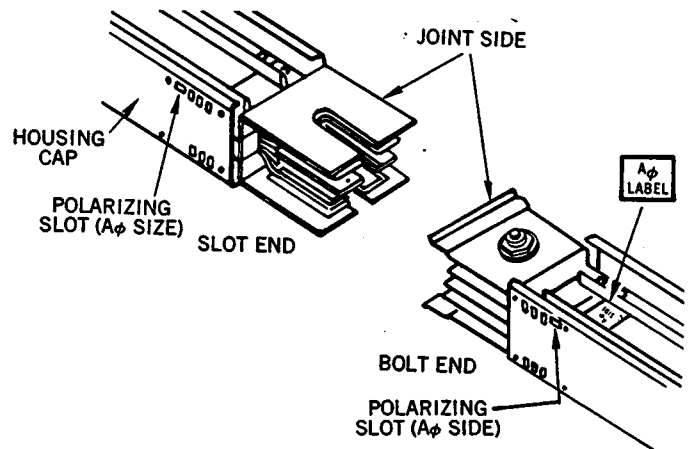

FIGURE 9
4. Arrange the pieces to be joined so that the $A\phi$ sides align. Identified by $A\phi$ label on housing side and polarizing slot in housing cap. See figure 9. Note that phase transposition lengths, when furnished, will relocate the $A\phi$ to the opposite side of the busway run.